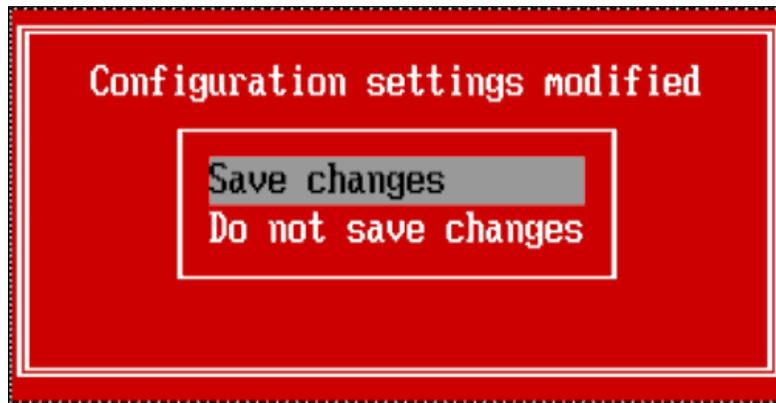

Figure 18-31 Saving the configuration settings
11. Press Esc to return to the previous panel. Press Esc again and you are prompted to save the configuration settings, as shown in Figure 18-31. Select **Save changes** and press Enter.